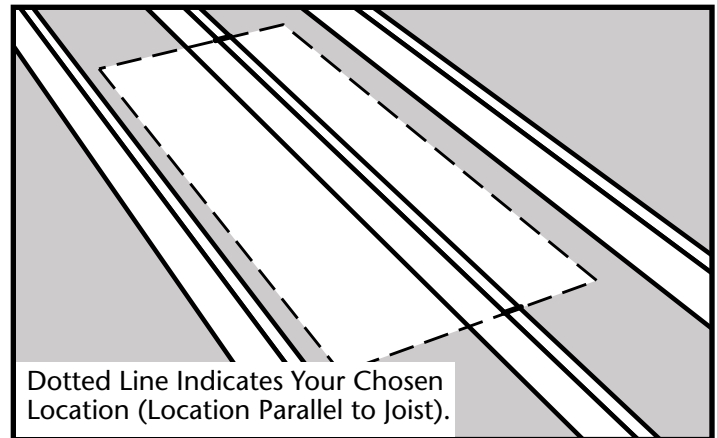

Figure 8
(A) If the chosen location is parallel to the joists, mark the rough opening length on top of the joists as shown in Figure 8.